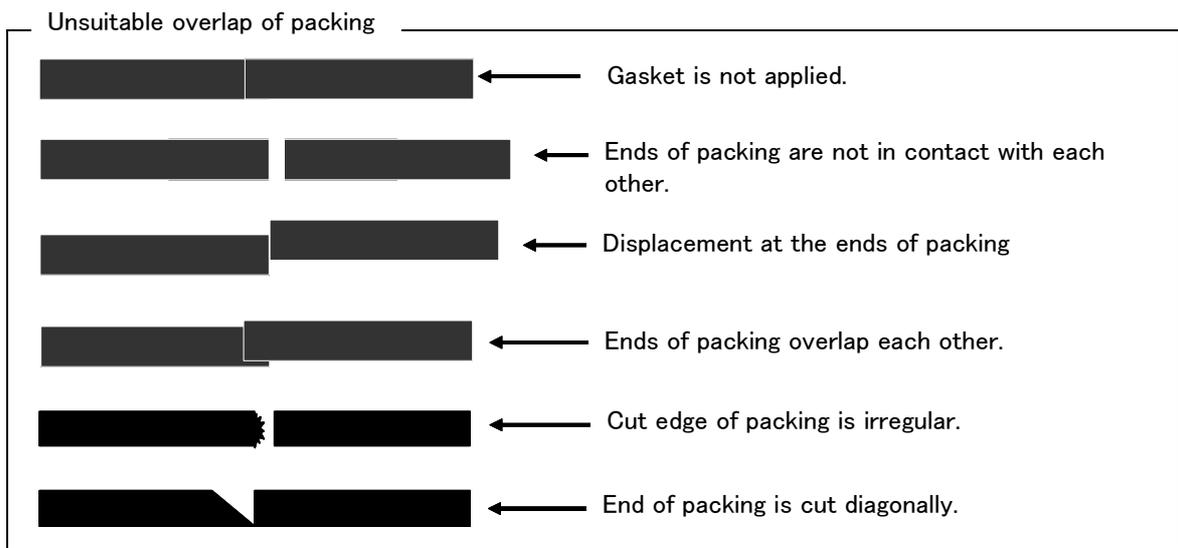

Fig.5-8 : Examples of packing overlaps
- 3) Although the No.2 arm cover (U) sticks two or more packings per place, it has length with which packing ends overlap. Stick packing in the following procedures. For more information, see "Fig.5-8 : Examples of packing overlaps". Examples of improperly treated cut edge are shown, as well.